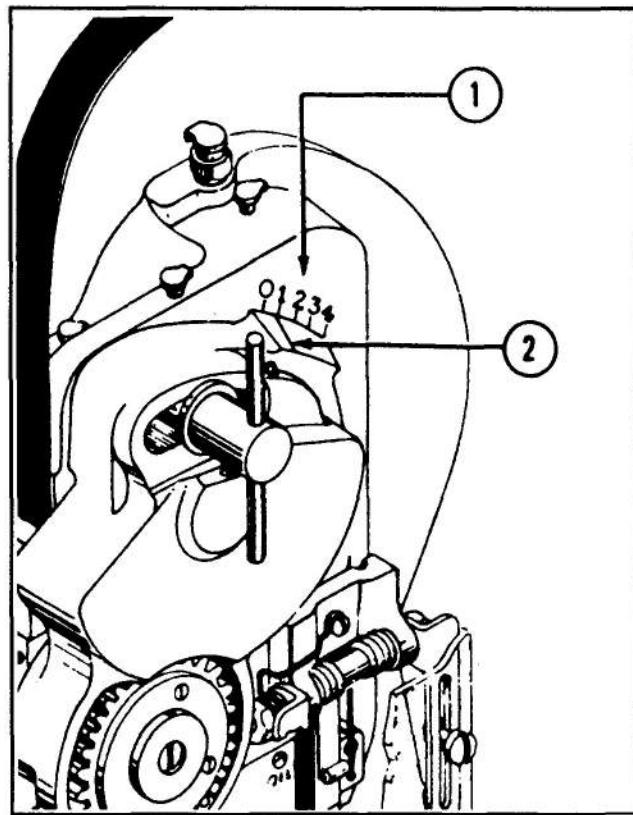

Figure 10 — Wire Draw Scale
The standard wire draw heads are equipped with a length of wire draw scale, (1) Fig. 10, on the head plate, and an alignment marker (2) on the wire feed guard. The scale and marker provide a means of setting the wire draw according to the desired length. On the short wire draw head the "O" scale marking represents 1/2" (12.7mm) of wire draw; on the standard draw head the "O" marking represents 1" (25.4mm) of wire draw. Each of the